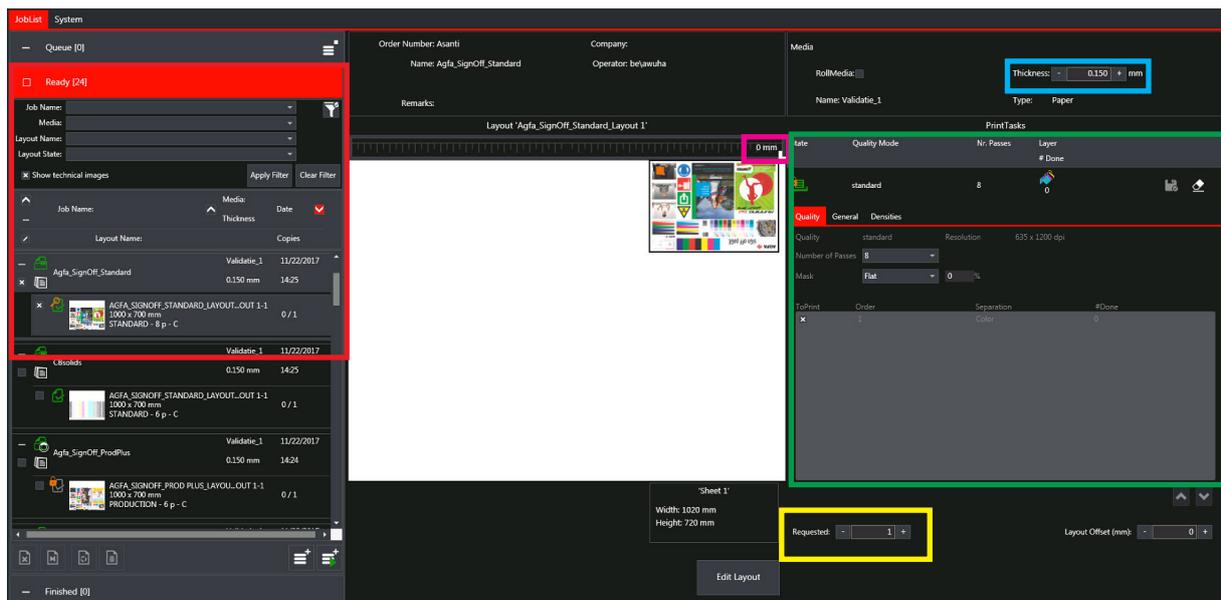

Fig.5-16: Job List Window - Manual Mode
- Step 2: Select the job to print from the job list pane Ready tab and number of copies (outlined in red in Fig.5-16).
- Step 3: Check the job settings in the Layout details pane (outlined in green in Fig.) and the media thickness (outlined in blue in Fig.5-16) adjust the copies if needed (outlined in yellow in Fig.5-16).
- Step 4: Check the media position indicated in the layout preview (outlined in magenta in Fig.5-16) (0 mm in this case).